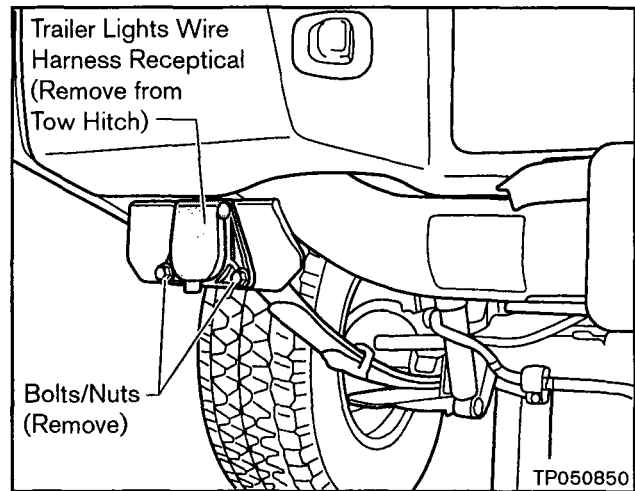

Figure A3
- b. Remove two Bolts/Nuts and remove (slide it DOWN) the Trailer Lights Wire Harness Receptacle from the Tow Hitch (see Figure A3).